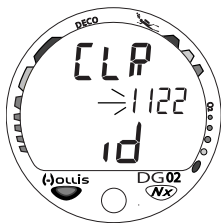

Fig. 77 - Reset (Clear)
- Depress and hold the button for more than 4 seconds while the Log Data screen is being displayed to access the Clear (Reset) screen. The graphics **CLR** and **id** will be displayed with the Key Code xxxx, the first 2 digits flashing (Fig. 77).